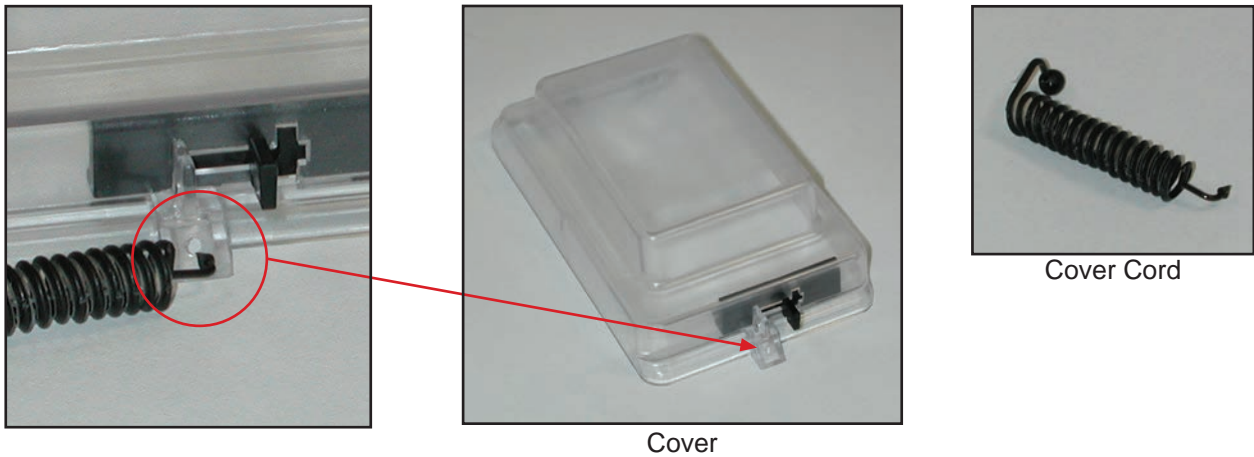

Figure 10.
18. Locate the bezel cover and the retaining cord. Insert the conical tipped end through the hole located below the cover latch. See Figure 10.